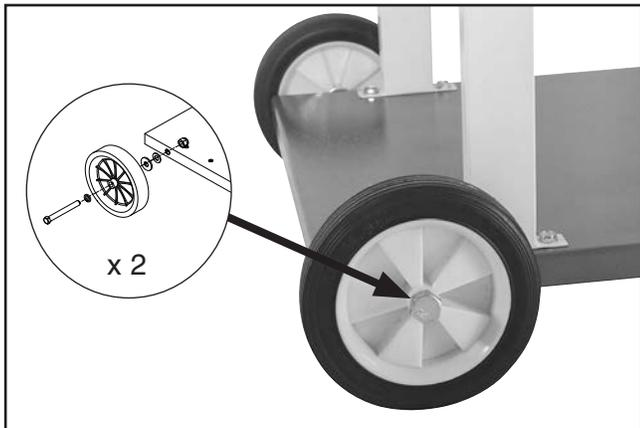

Figure 8. Base with wheels attached.
1. Attach (2) 7" wheels to base using (2) $\frac{1}{2}$ "-12 x 4" hex bolts, (2) $\frac{1}{2}$ " flat washers, (2) $\frac{1}{2}$ " fender washers, (2) $\frac{1}{2}$ " plastic fender washers, and (2) $\frac{1}{2}$ "-12 lock nuts (see **Figure 8**).